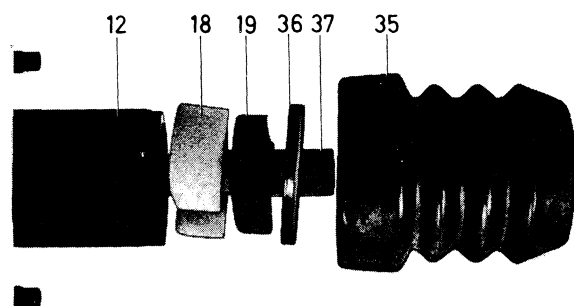

Fig. 5-76. Filter parts
with screwdriver. Pull out the silencer and filter, see Fig. 5-76.
2. Fit the new filter and silencer on the thrust rod. The slots should face 180° from each other, see Fig. 5-76.